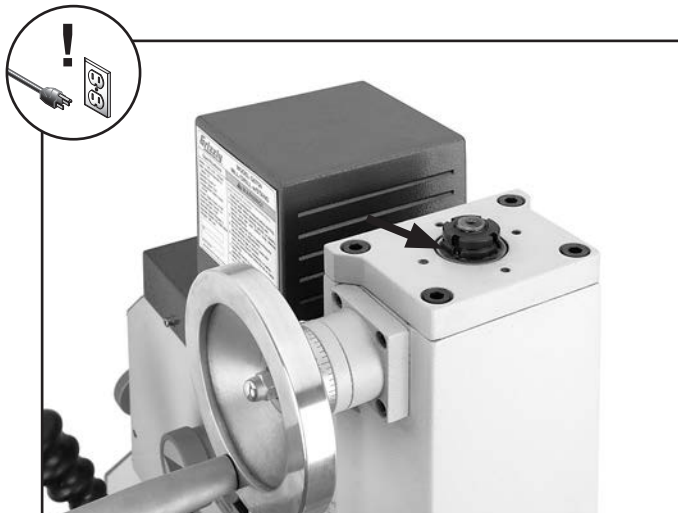

Figure 51. Bushing oil location.
3. Apply several drops of light machine oil to the bushing edge, then rotate the vertical handwheel to disperse the oil (**Figure 51**).